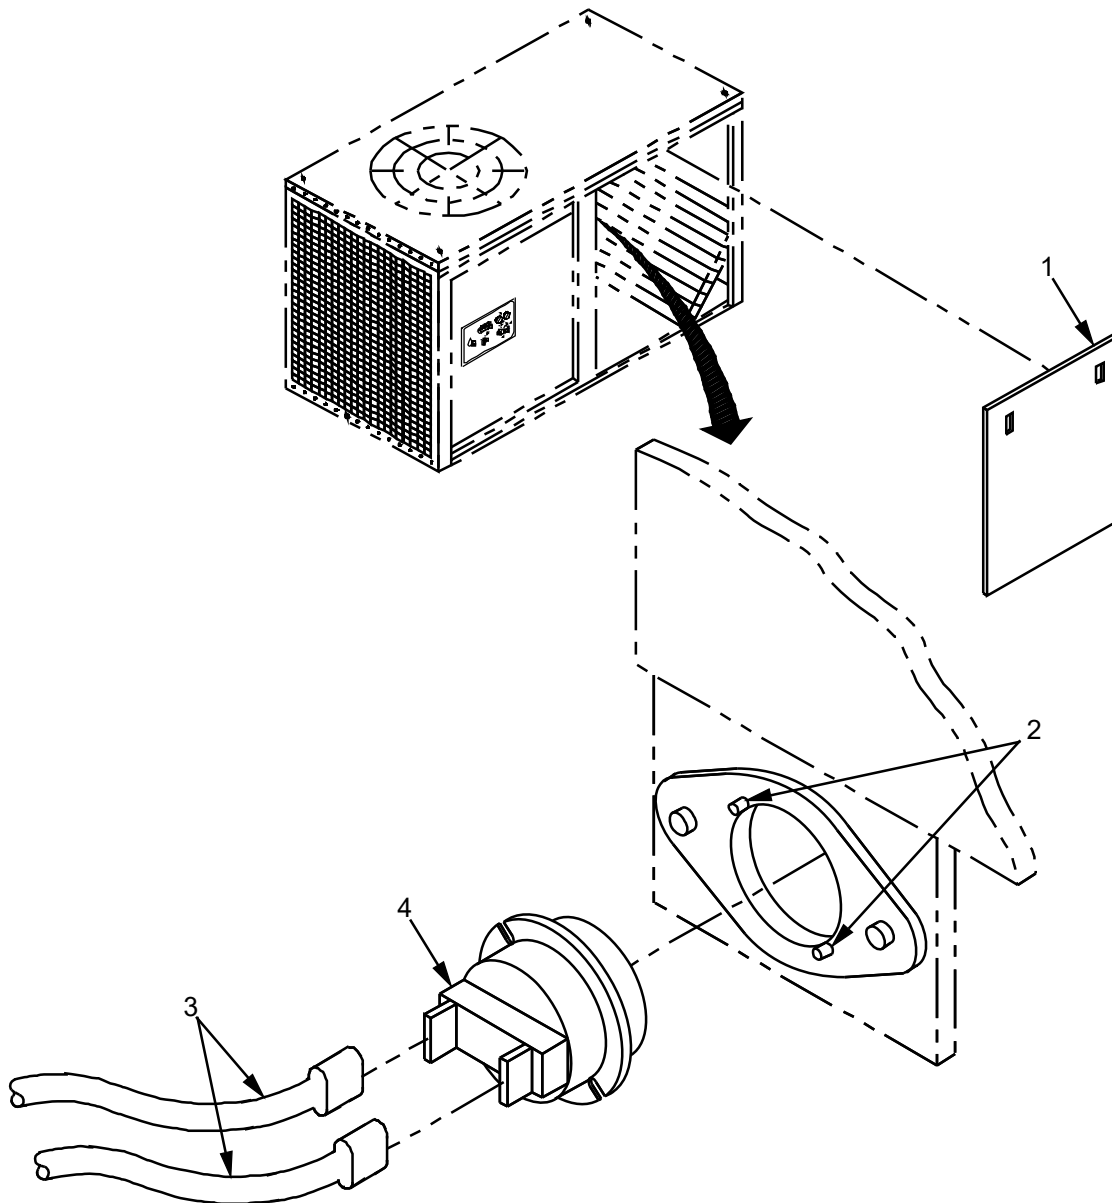

Figure 1. High Temperature Cut-off Switch (HTC) Replace.
2. Remove access panel (Figure 1, Item 1) from ECU and set aside.
3. Mark and disconnect two terminals (38A and 39A) (Figure 1, Item 3) from high temperature cut-off switch (HTC) (Figure 1, Item 4).
4. Rotate high temperature cut-off switch (Figure 1, Item 4) until tabs (Figure 1, Item 2) align with notches and remove high temperature cut-off switch (Figure 1, Item 4).
1. Align notches in temperature cut-off switch (Figure 1, Item 4) with tabs (Figure 1, Item 2) in mount and insert. Twist temperature cut-off switch (Figure 1, Item 4) until it is locked into place.
2. Connect two terminals (38A and 39A) (Figure 1, Item 3) to temperature cut-off switch (Figure 1, Item 4).
3. Replace access panel (Figure 1, Item 1).